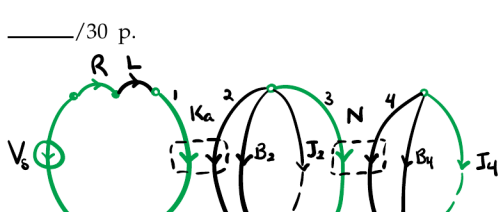

Figure exe.3: a linear graph model with normal tree in green of the electromechanical system of Exercise emech, with a gear reduction.
Consider the system presented in the schematic of Fig. exe.3. From the linear graph model and normal tree derived in Exercise emech.square, derive a state-space model in standard form. Let the outputs be θ_1 and θ_2 , the angular positions of the flywheels.
Consider the linear graph model (with normal tree) of Fig. exe.3. This is a model of a motor with constant K_m connected to a pair of meshing gears with transformer ratio N , the output over input gear ratio. An ideal voltage source drives the motor—modeled as an ideal transducer with armature resistance R and inductance L . The motor’s rotational mechanical side (2) is connected to a moment of inertia J_2 modeling the rotor and drive gear combined inertia. The damping element B_2 models the internal motor damping and the drive gear bearing damping. The output side of the gear transducer (4) is connected to a moment of inertia J_4 modeling the output gear and load combined inertia. The damping element B_4 models the internal motor damping and the drive gear bearing damping. Use the parameter values given in Table exe.1.